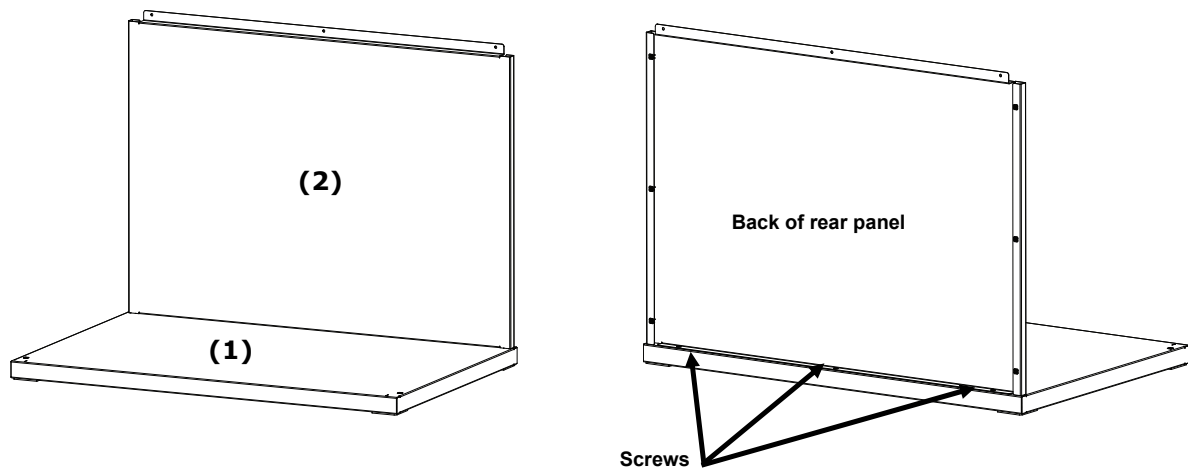

Figure 2. Rear into bottom panel
2. Position the rear panel (2) bottom tabs into the bottom panel (1) rear slots. Fasten the rear panel to the bottom panel by securing it with three screws as shown in Figure 2.